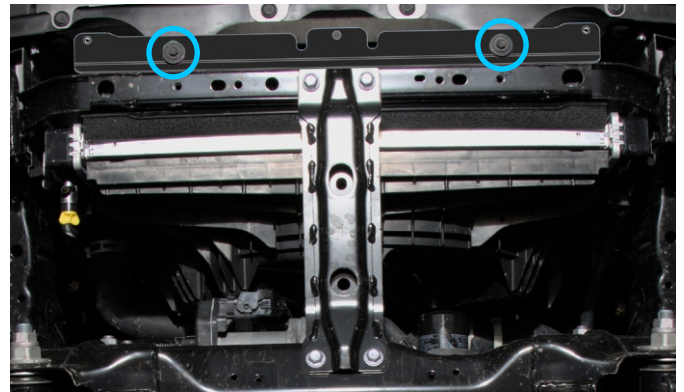

Fig. 4
4. Install supplied mounting bracket (item 2) as close as possible to the factory bumper and secure it using factory bolts from step 3 as shown in Fig.4.